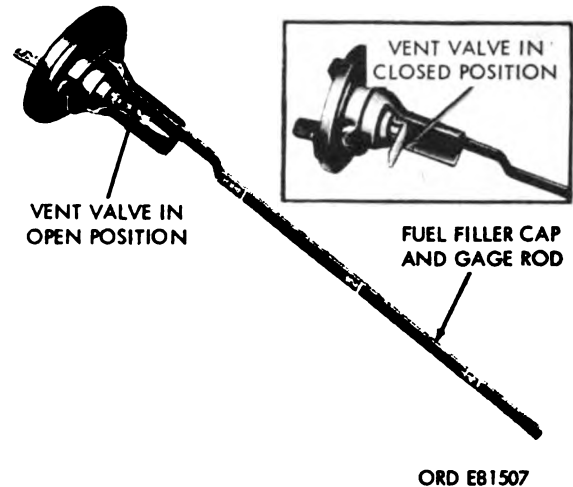

Figure 2-8. Fuel filler cap and gage rod.
a. Fuel Filler Cap and Gage Rod. The fuel filler cap and gage rod (fig. 2-8) consist of a metal gage rod attached to the underside of the fuel tank filler cap. The gage rod is graduated and marked $\frac{1}{4}$, $\frac{1}{2}$, $\frac{3}{4}$ and FULL.